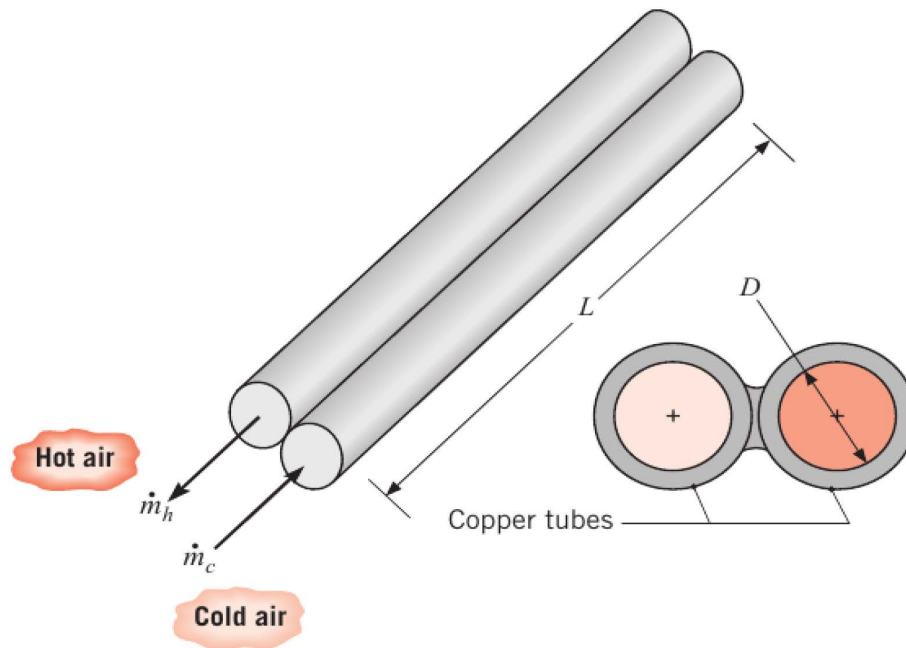

Figure 24: Twin-tube counterflow heat exchanger.
a) A twin-tube counterflow heat exchanger (Fig. 24) operates with air flow rates of 0.003 kg s^{-1} for both hot and cold streams. The cold stream enters the heat exchanger at 280 K and must be heated to 340 K using hot air that enters the domain at 360 K . The average pressure of the airstreams is 1 atm and the maximum allowable pressure drop for the cold airstream is of 10 kPa . The tube walls may be assumed to act as fins, each with an efficiency of 100%.